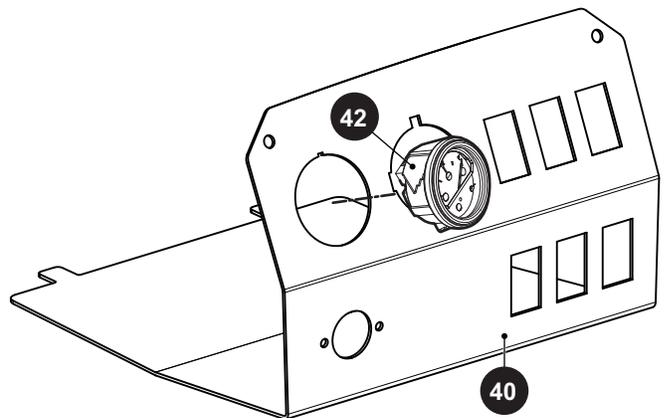

Fig. 17 SOC Meter
4. Squeeze the tabs on the back of the SOC meter (42) and push it through the front of the gauge panel (40) (Ref. Fig. 17).